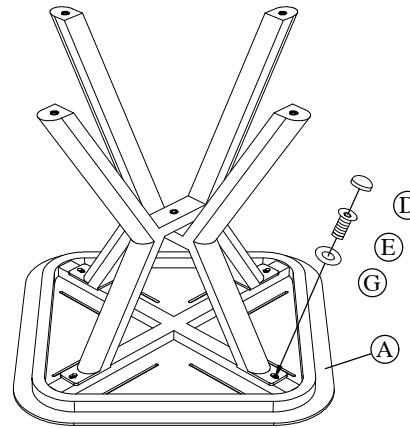

Figure 2
Step 3: Place the table top upside down on a flat, non-abrasive surface. Attach the complete base to the table top by using 1/4"x18 mm bolts(E) and Ø6.5x1.0 mm washers(G) as shown in *Figure 2*. Guide the bolts through the holes in the table legs, into the pre-drilled holes in the table top. **Hand tighten only.** Repeat for the other sides.